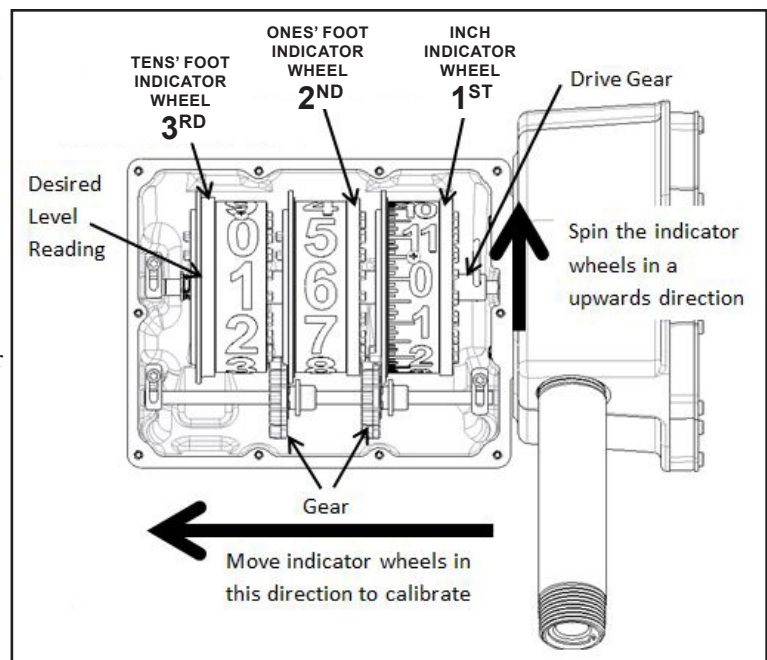

Figure 3
11. Now the gauge can be calibrated to the liquid level you found in step 4. Calibration is done one indicator wheel at a time (See Figure 3). Start with the inch indicator wheel. Grab the indicator wheel and push it to the left to clear the drive gear. The inch indicator wheel must be fully disengaged from the drive gear. The indicator wheel should now freely spin. Spin the wheel UPWARDS so that the numbers are counting up. Once at the correct setting, slowly let indicator wheel seat back into the drive gear. Failure to follow this procedure can cause damage to the internal mechanism and render the gauge inoperable. **Note: desired level reading needs to be in the center of the viewing window.**
12. Calibration for the foot readings is done in a similar manner pushing the indicator wheels to the left so they clear the gears that are offset below the indicator wheels (See Figure 3.) Calibrate the ones' foot indicator wheel and then the tens' foot indicator wheel. **Note: desired level readings need to be in the center of the viewing window.**